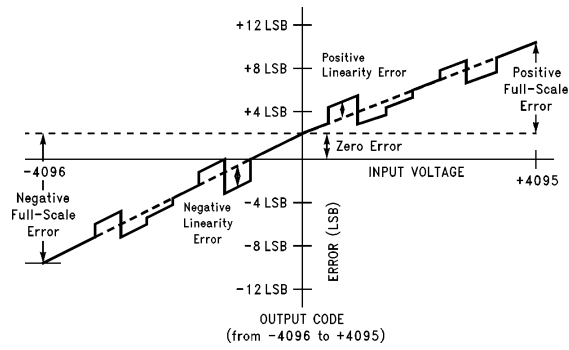

FIGURE 1b. Simplified Error Curve vs Output Code without Auto-Cal or Auto-Zero Cycles
**Note 11:** Positive linearity error is defined as the deviation of the analog value, expressed in LSBs, from the straight line that passes through positive full scale and zero. For negative linearity error the straight line passes through negative full scale and zero. (See *Figures 1b* and *1c*).